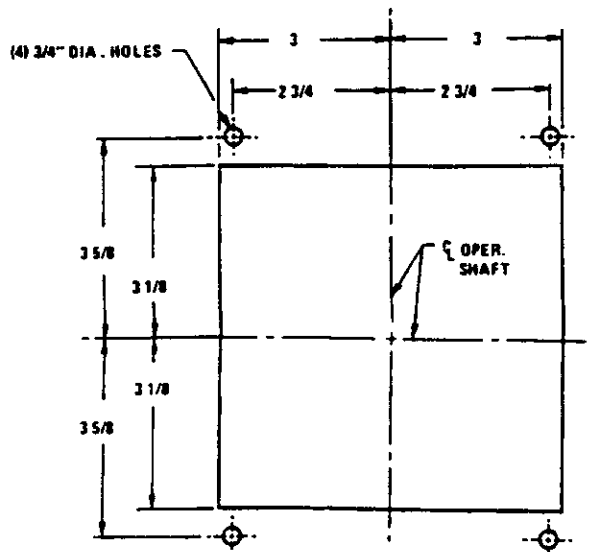

Fig. 8
- b. If it has not already been done, cut opening and drill or punch four 3/4" diameter holes in right side of enclosure per pattern shown in Fig. 8. (The same information appears on direct drive handle Dwg. S-20148.)